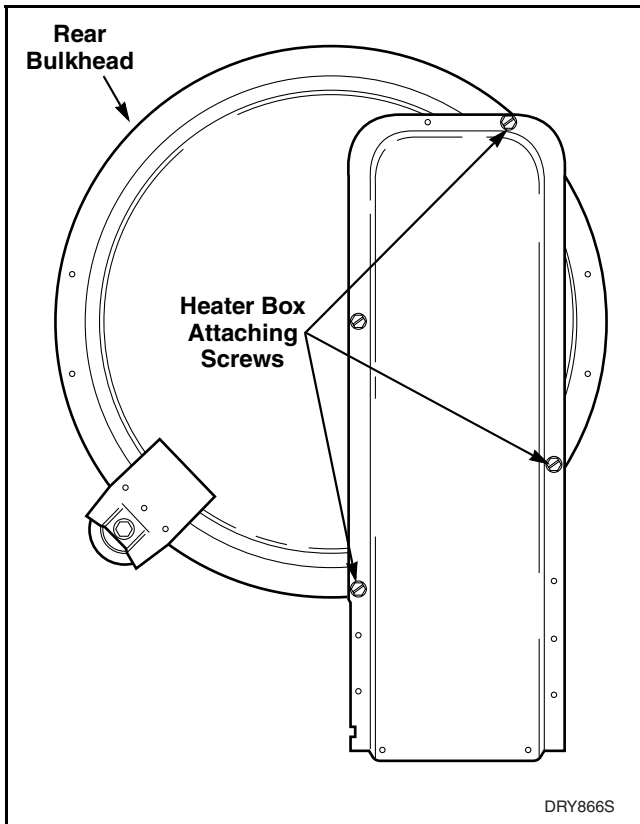

Figure 30
- g. Refer to *Figure 30* for removal.